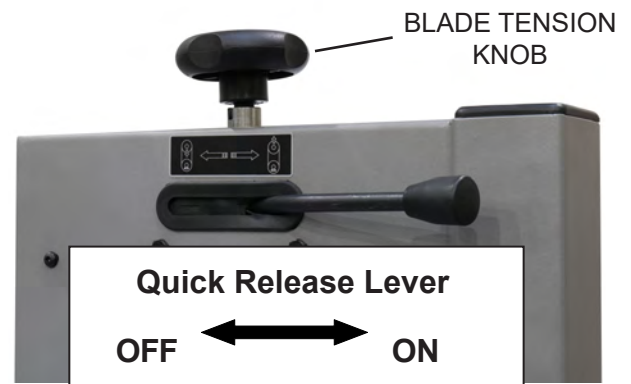

Fig. 50
⚠ CAUTION! Always tension the blade with the rear Quick Release Lever in the “ON” position. Failure to do so could result in lack of blade tension or tension failure. FIG. 50
1. Adjust the blade tension by turning the Blade Tension Knob on top of the saw (FIG. 50)